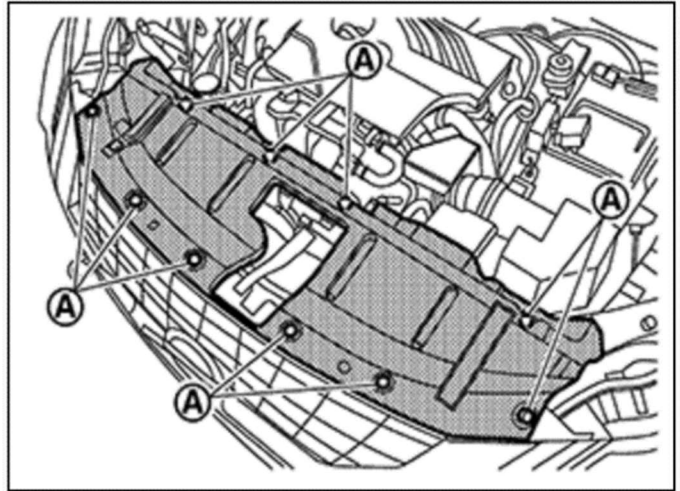

Figure 7
7. Remove front grille cover fixing clips, and then remove front grille cover. (Figure 7)
- Remove ten (10) fixing clips